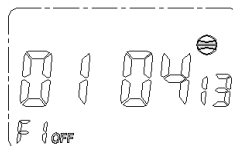

figure 10
4.2.2.2 The first group of holidays start date after the completion of installation, Press the "MD" button to set the first group holidays end date, The bottom left corner of the screen will display the F1 off, According to the 4.2.2.1 procedure, the date set for January 4, 2013 ( Holiday time is calculated starting from 0 o'clock, so as the new year's holiday time for the end of January 3rd, is required to set the date for the January 4th ) , as figure 10.